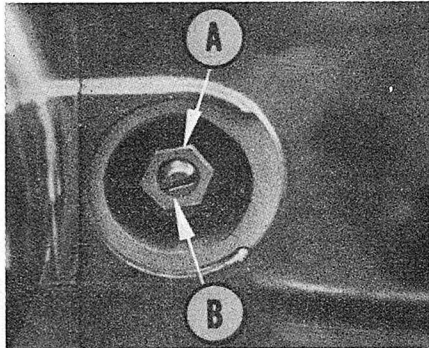

Fig. Y12-4—Remove cap on left side of engine to make clutch adjustment.
**CLUTCH CONTROLS.** Clutch may be adjusted after removing rubber cap on left side engine case. Loosen lock nut (A—Fig. Y12-4) and turn screw (B) out until loose. Turn screw (B) back in until it lightly seats and